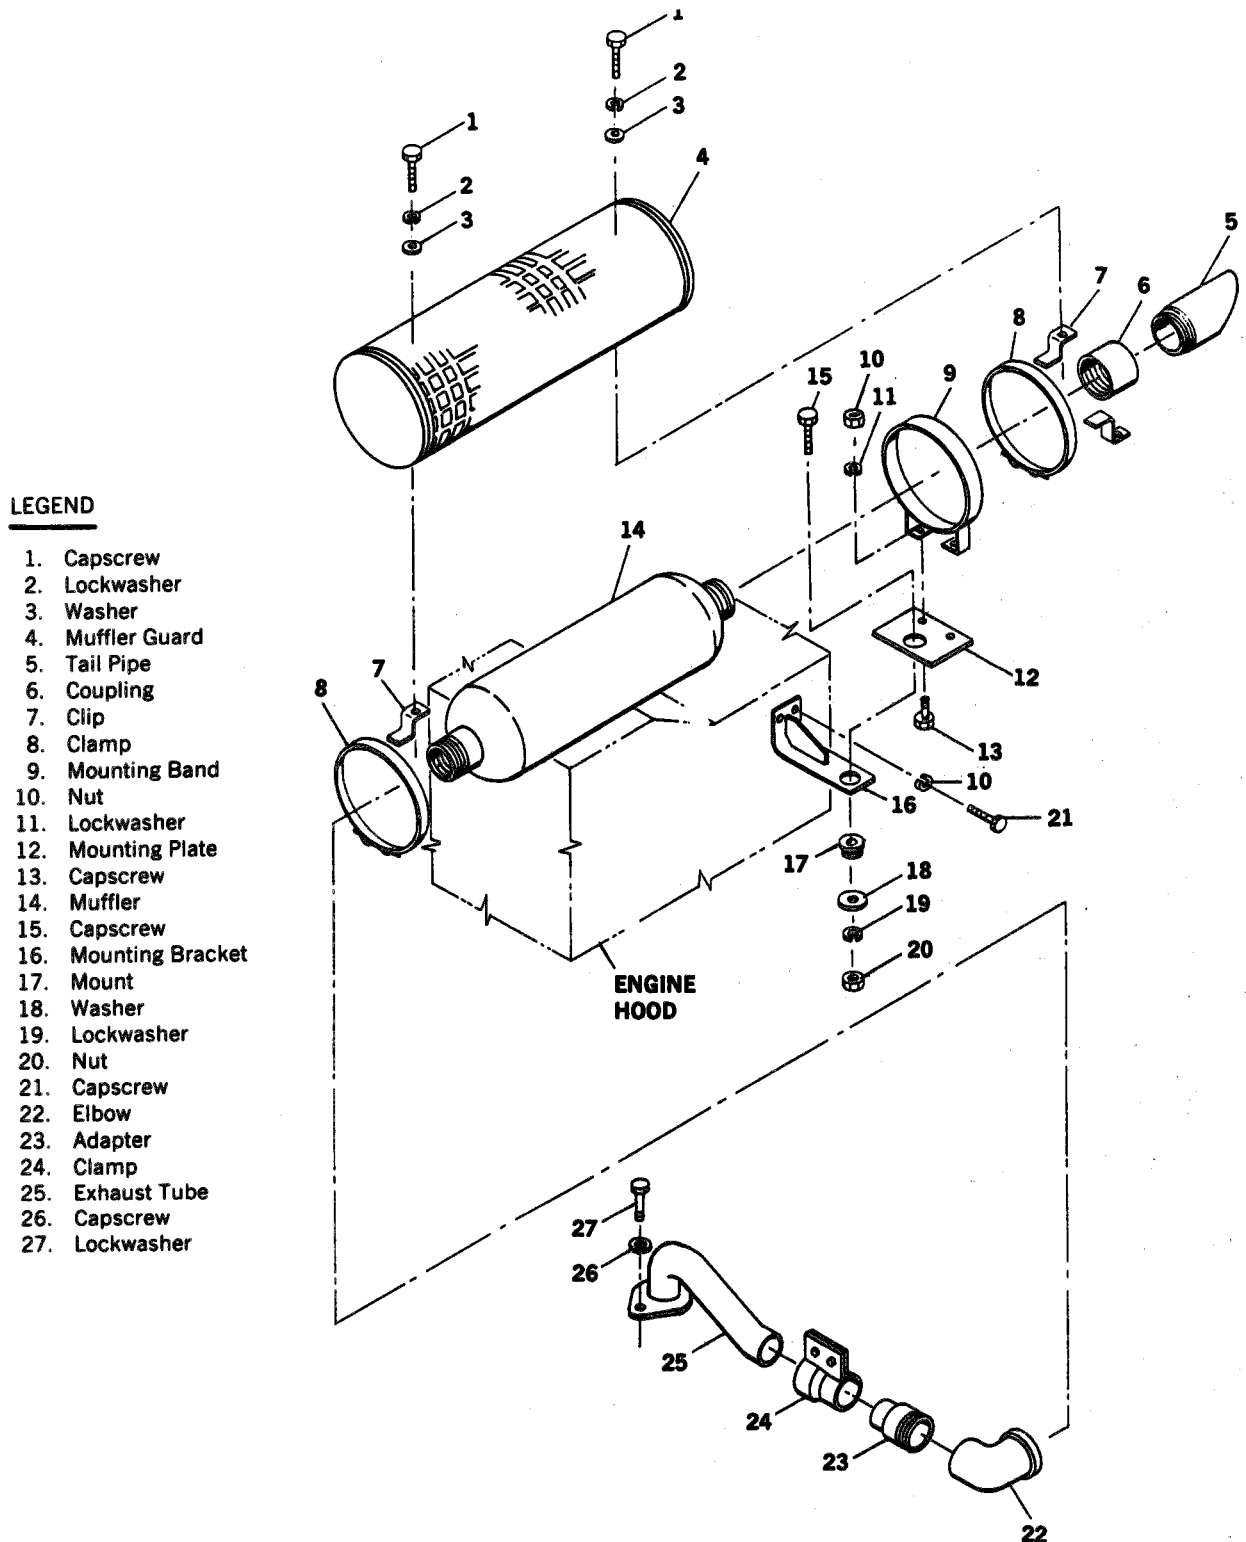

Figure 3-46. Exhaust System
- a. Loosen clamp (24, figure 3-46). Remove adapter (23).
- b. Remove nut (20), lockwasher (19), washer (18), mount (17), capscrew (15) and muffler (14) with muffler guard (4).
- c. : Remove elbow (22), tail pipe (5) and coupling (6).
- d. Remove capscrews (1), lockwashers (2), and washers (3), and muffler guard (4).
- e. Remove capscrews (13), nuts (10), lockwashers (11), mounting plate (12), and mounting band (9).
- f. Remove clamps (8) and clips (7).
- a. Assemble elbow (22, figure 3-46), muffler (14), coupling (6), and tail pipe (5).
- b. Install clamps(8), mounting band (9) and clips (7),
- c. Install muffler guard (4) with capscrews (1), lockwashers (2), and washers (3).
- d. Install nuts (10), lockwashers (11), mounting plate (12), and capscrews (13).
- e. Install adapter (23).
- f. Install muffler (14) with muffler guard (4) with cap-screw (15), mount (17), washer, lockwasher(19), nut (20), and clamp (24). Install new clamp (24) if required.